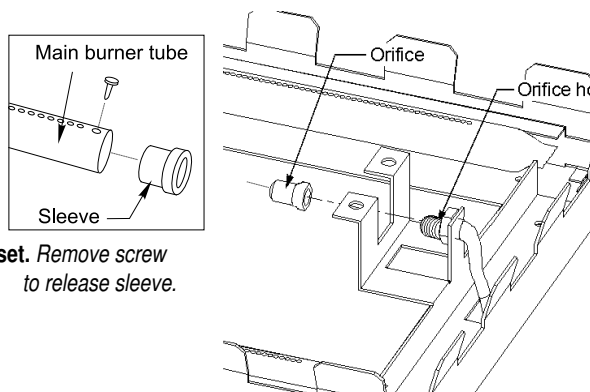

Figure 6. Changing main burner orifice.
12. Loosen the set screws at each end of the burner tube. Slide the sleeves out of each end of the tube and replace them with the ones from the package marked 'Main Burner Sleeves' in this kit. (See Inset, Figure 6.) Re-tighten the set screws.
13. Remove the orifices from the orifice holder at each end and replace them with the new orifices from the package marked 'Main Burner Orifices' in this kit. (See Figure 6.) **Make sure the Orifices are tightened securely to prevent gas leaks.**